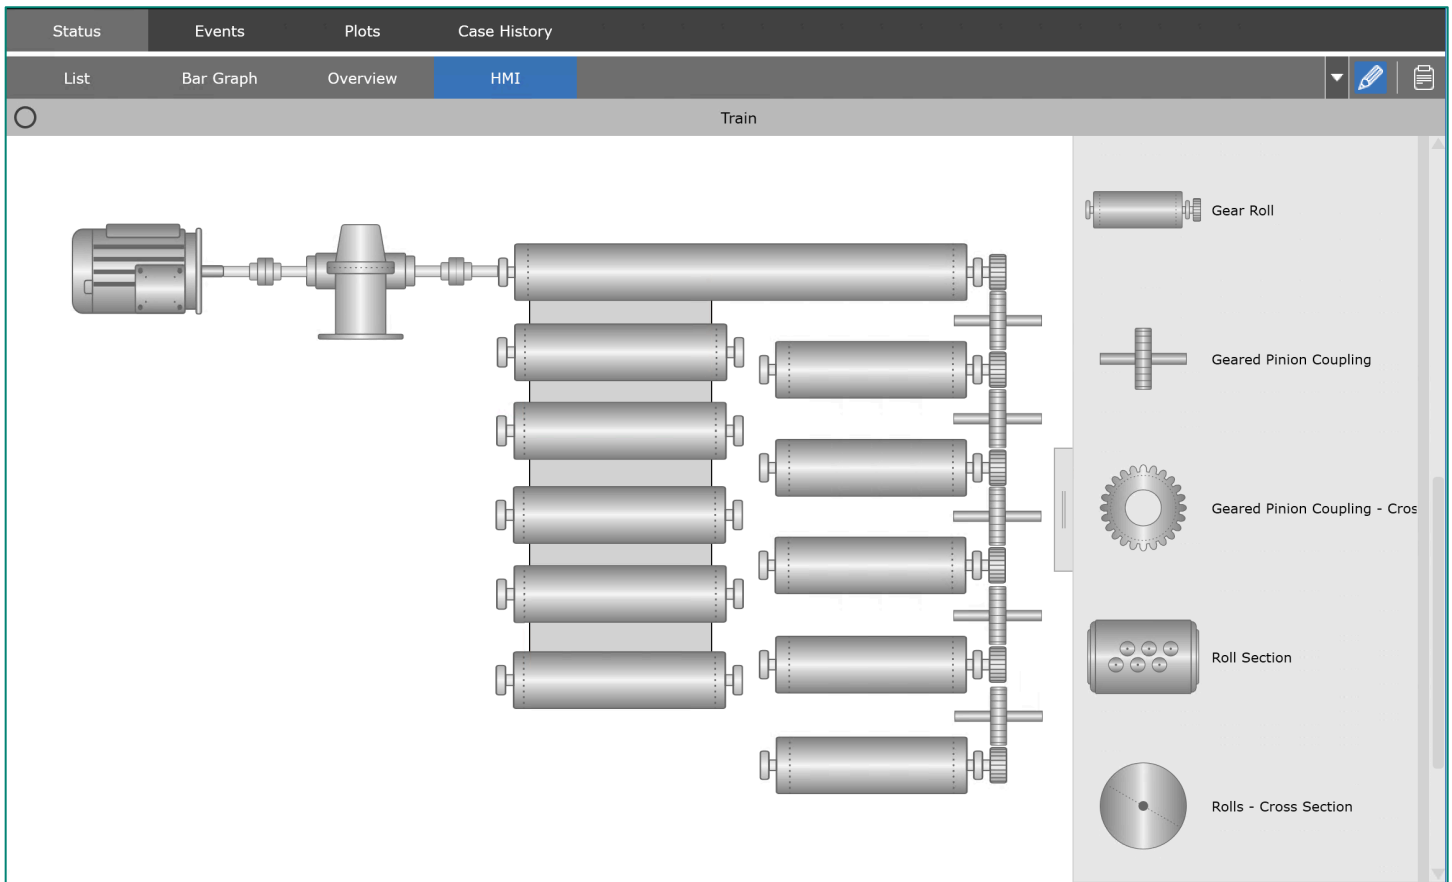

Figure 14: HMI Screen with Roll Section and the HMI Symbol Library
- New components in HMI library to create detailed HMI diagrams (Figure 14)